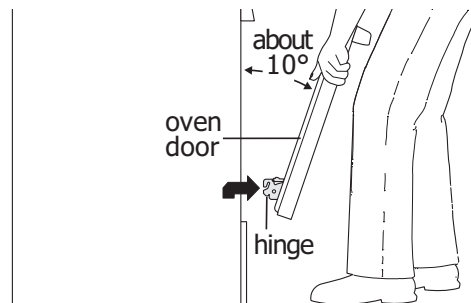
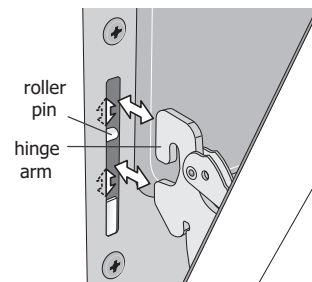

Figure 30: Holding door for removal
Figure 31: Replacement and location of hinge arm and roller pin
3. Firmly grasp both sides of oven door along the door sides. Do not use the oven door handle (See Figure 30).
4. Close the door to approximately 10 degrees from the door frame (See Figure 30).
5. Lift the oven door hinge arms over the roller pins located on each side of the oven frame (See Figure 31).
1. Firmly grasp both sides of oven door along the door sides. Do not use the oven door handle (See Figure 30).
2. Holding the oven door at the same angle as the removal position, seat the hook of the hinge arm over the roller pins located on each side of the oven door frame (See Figure 30 and Figure 31). The hook of the hinge arms must be fully seated onto the roller pins.